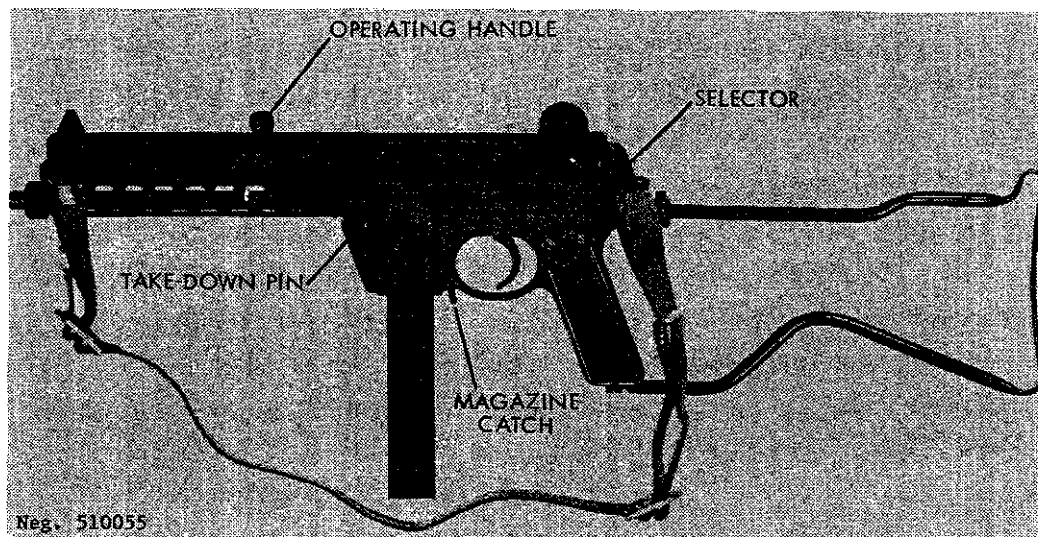

Figure 56. West German Walther MP-L submachinegun.
a. Load the magazine as described in paragraph 89a. Rotate the selector (fig 56) to safe (S). Insert the loaded magazine into the magazine well until the magazine catch snaps into place and retains the magazine.
c. Rotate the selector (fig 56) rearward to its "S" or safe position. Pull the operating handle (fig 56) fully rearward and release it. The gun incorporates an automatic safety device to intercept the bolt if it is drawn back far enough to pick up a cartridge from the magazine, but not far enough to catch on the
a. Clear the gun (para 96g above) but do not insert the magazine. Open the stock. Press the spring catch in the take-down pin (fig 56) in until the pin can be extracted. (It cannot normally be removed completely from the receiver.) Grasp the upper receiver under the barrel and push it upward to separate the upper and lower receiver.